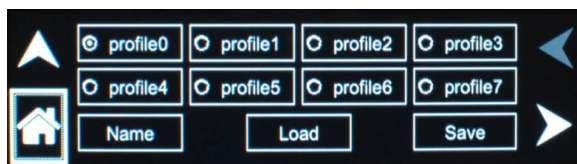

Figure 7-6. CONFIGURATION Menu, PROFILES Selection
3. Tap on one of the fifteen PROFILE_x buttons ($x = 0$ to 14) to select it; refer to Figure 7-6.